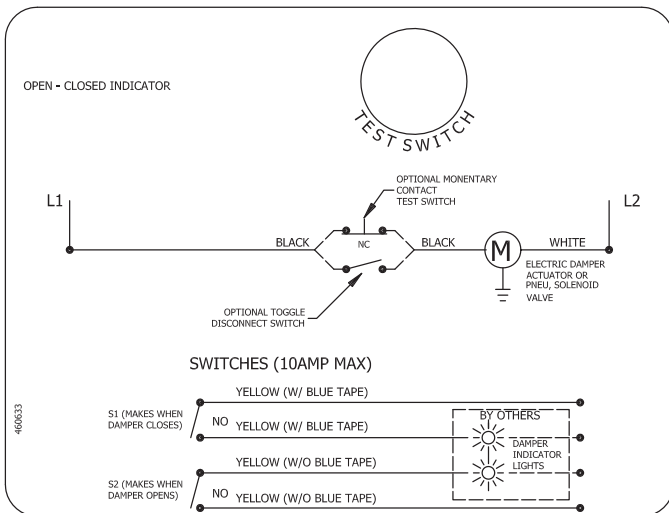

Figure 7: OCI Wiring Diagram
8. Complete wiring and install J-box cover (Figure 7).